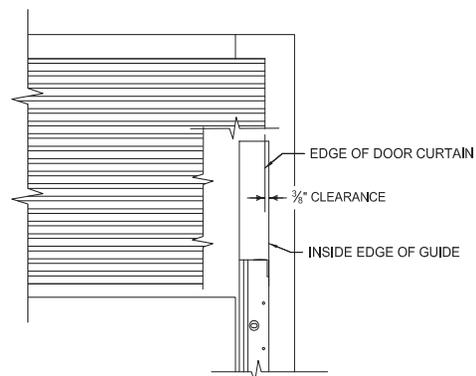
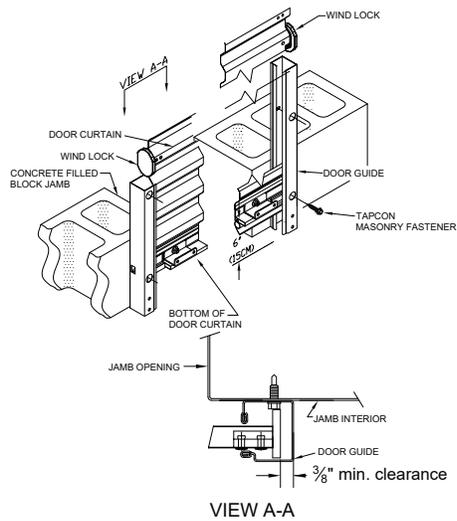
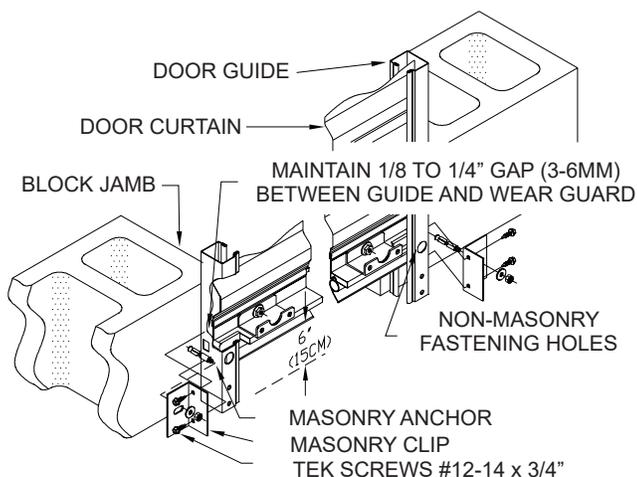

Figure 11.
Figure 12.
Figure 13.
7.3 Position the guides against the jambs according to the clearance shown in Figure 11 (Figure 12 if windlock model). Loosely fasten the top of each guide to the door jamb. This will allow slight adjustment of the guides as the door installation is completed. **DO NOT** install the remaining fasteners until such time as the adjustment is true. Level one guide and loosely install a second fastener in the bottom hole. If mounting to masonry, install clips provided as shown in Figure 13. Align the clips with the holes along the length of the guide and flush with the back of the guide. (Anchors by others).
For windlocked doors, this is a critical adjustment for the door to operate correctly. Operate the door fully up and down multiple times and if any binding or scraping noises are heard, adjust the door guides to eliminate the binding. Review Fig 11, VA-A for proper windlock clearance.